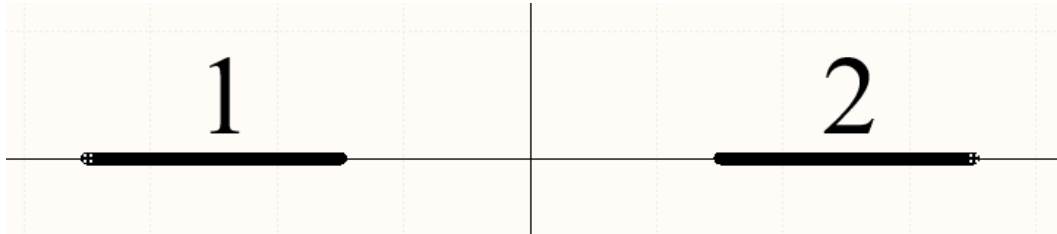

Figure 15. Position pin 2 to the right of pin 1
18. Using *Figure 15* as reference,
- For Pin 2, ensure that the electrical hotspot is on the right-side of the pin. Then, position it to the right of the origin at the coordinate X= (350mil) Y=(0mil) as shown in *Figure 15*.